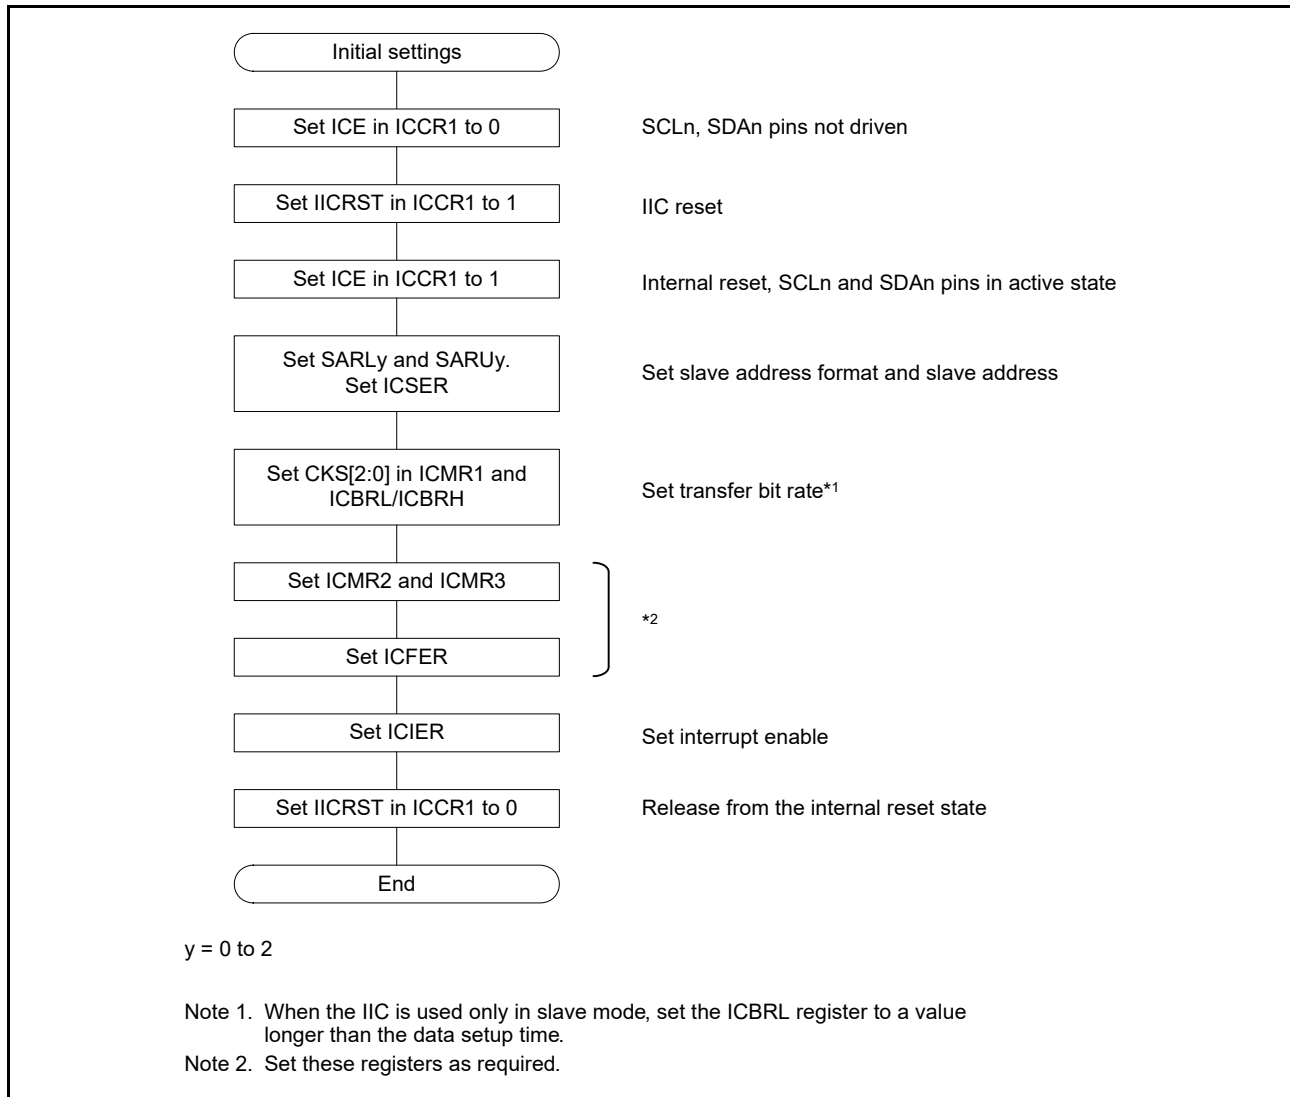

Figure 29.5 Example IIC initialization flow
Before starting data transmission or reception, initialize the IIC according to the procedure shown in Figure 29.5.
4. Set the SARLy, SARUy, ICSEr, ICMR1, ICBRH, and ICBRL registers (y = 0 to 2), and set the other registers as necessary. For initial settings of the IIC, see Figure 29.5.